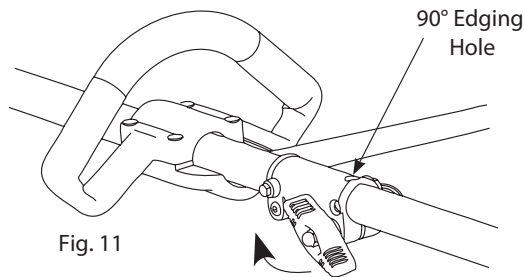

Fig. 11
3. Turn the knob clockwise to tighten (Fig. 11). Unit is ready to use.
4. For edging (when using the string trimmer head cutting attachment) lock the release button of the cutting attachment into the 90° edging hole (Fig. 11), so that the engine remains in the upright position while operating.
NOTE: Always install the attachment so that the engine is upright (propane tank on bottom) when unit is operated. A secondary receiving hole is provided for use of a trimmer being used for edging only. No other accessory should be used in this secondary hole (90° edging hole) (Fig. 11).